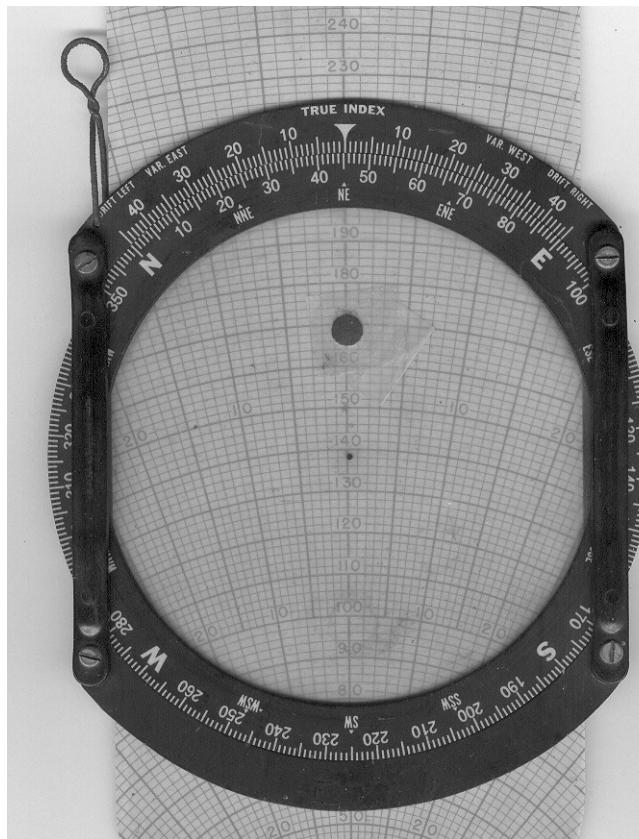

Fig 19: E-6B Wind Face
The E-6B wind vector side is illustrated in Fig 19 & 20. The sequence of operations are:
- a. Rotate the wind side movable disc to read 45° (under True Index atop the fixed scale; per Fig 19).